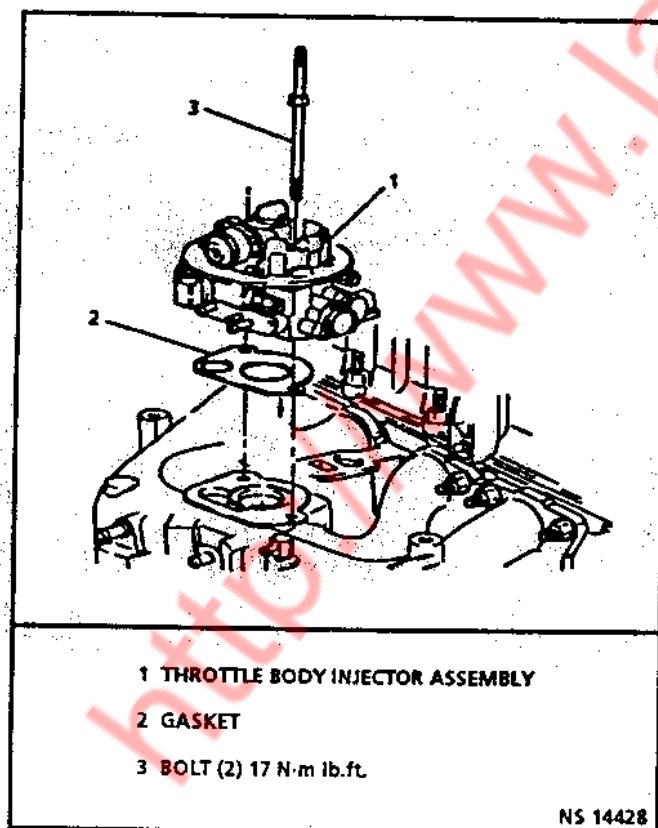

Figure 3.2-13 Removing Throttle Body Injection
8. Throttle body injection unit from intake manifold (Figure 3.2-13).